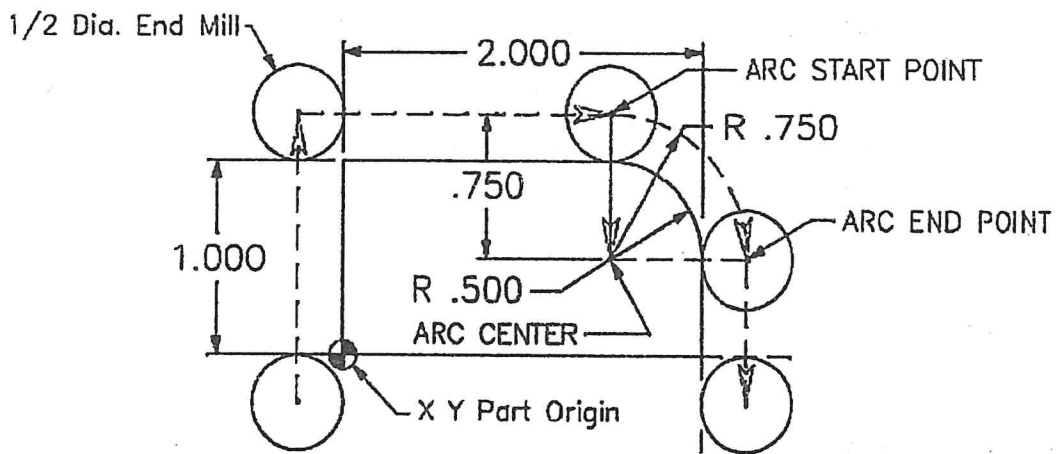

Figure 3(b)
- (b) Briefly describe three types of motion control and provide appropriate applications for each. (10)
3. (a) Explain the difference between accuracy and repeatability, as well as their importance in CNC machining. (10)
- (b) Write a G code for the part shown in Figure 3(b). Show only the tool movement in different axes. (10)